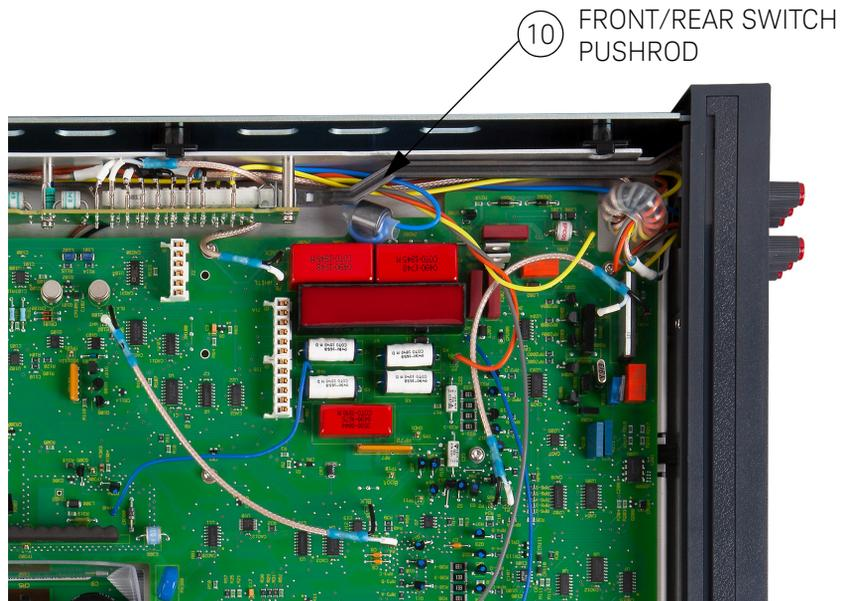

Figure C-8 Front/rear terminal switch and pushrod location
- 3 Refer to **Figure C-8**. Locate the pushrod for the Front/Rear Terminal switch. Pull the pushrod off. You may need to pry the pushrod loose with a small flat blade screwdriver, Set the switch in the position it is to be used.